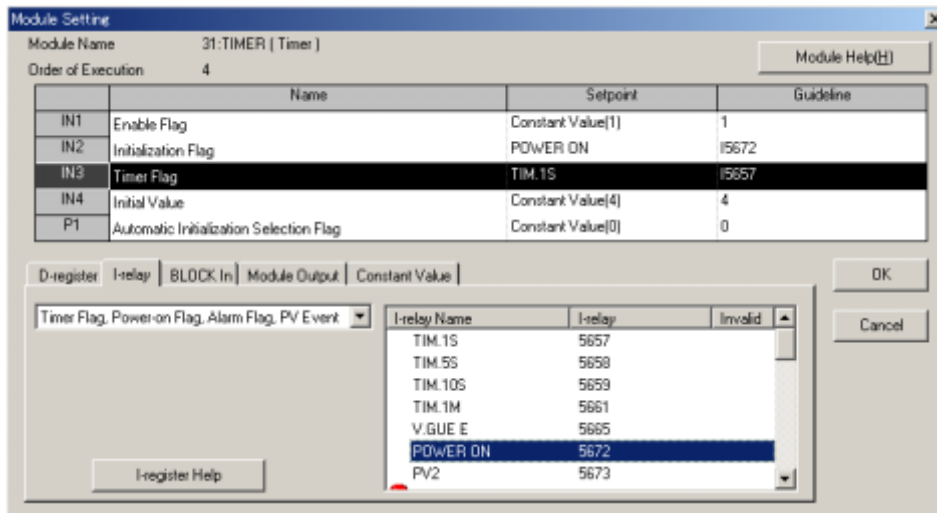

Figure 12.5.21 Configuration of the <IN2> Input
- (6) The <IN2> module input is waiting for the data setting.
- (7) Click the <l-relay> index.
- (8) Click <Timer flag, power-on flag, alarm flag> in the drop-down list box.
- (9) Double-click <POWER ON> in the list box. The <POWER ON (Setpoint column)> and <I5672 (Guideline column)> options appear in the <IN2> row. (Figure 12.5.21)